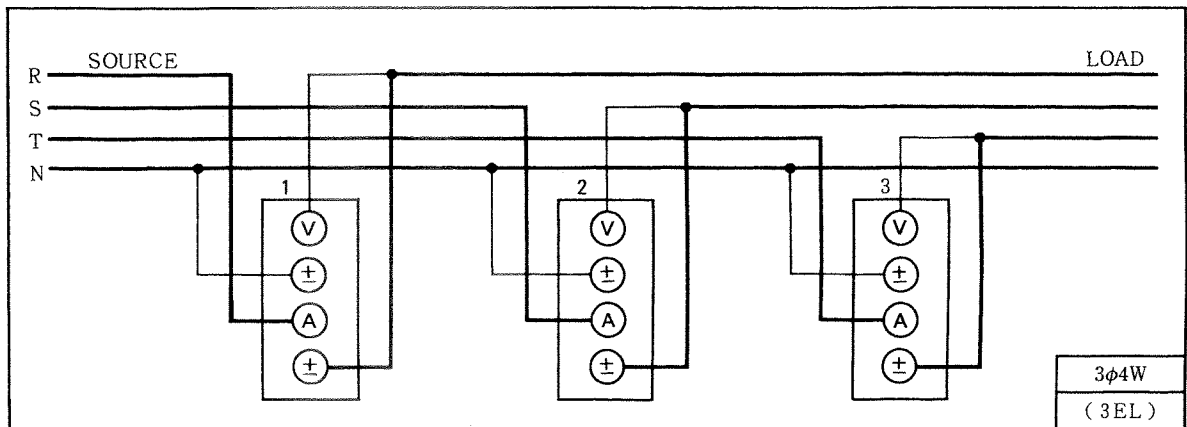

Figure 2-13.
(1) When Both Voltage and Current are Within Specified Measurement Ranges
Referring to section 2-4-2 (1), perform wiring as depicted in Figure 2-13. For this wiring, the relationship between measurement items and measured data is as given in the column, three-phase four-wire system, in Table 2-3.